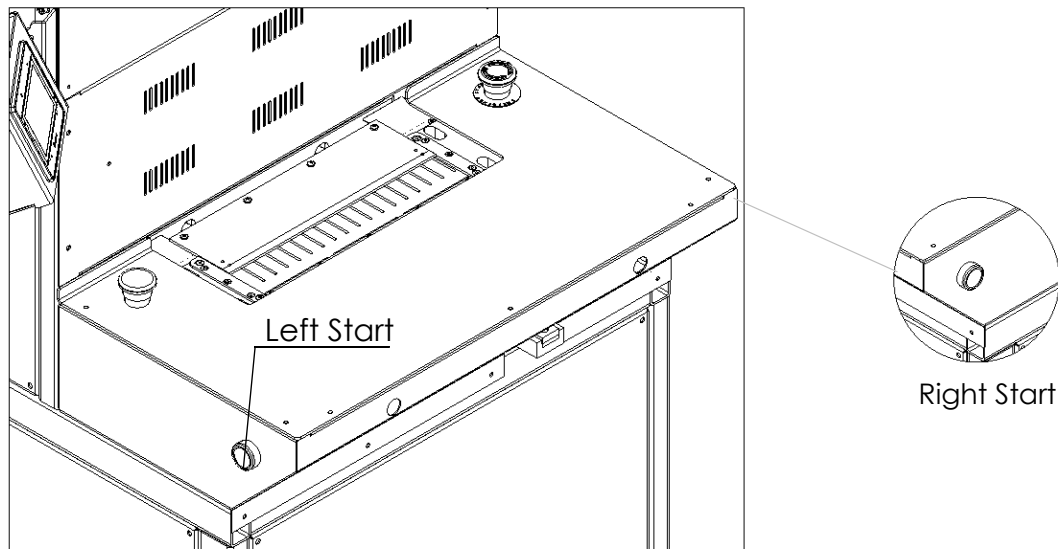

Figure.20
- e) While urgent stop button is pressed, wait to return mould's place holding down right and left buttons at once. (Figure.20)